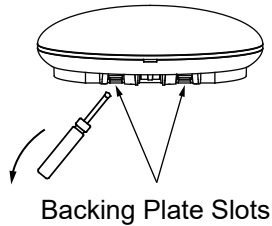

Figure 14.
1. Carefully remove the Backing Plate by inserting a slot screwdriver into the slots as shown in Figure 14 in the lower part of the Smart Port (2 places), and lever up to remove the Backing Plate.